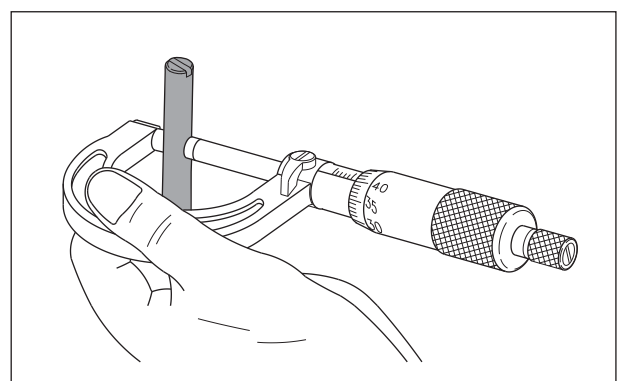

Fig. 3.60
- Inspect the shaft valve rocker arm for any damage. Measure the outer diameter (OD) of shaft valve rocker arm. If the OD is less than the service limit, replace the shaft. (Fig. 3.60) Repeat with other rocker arm shafts.